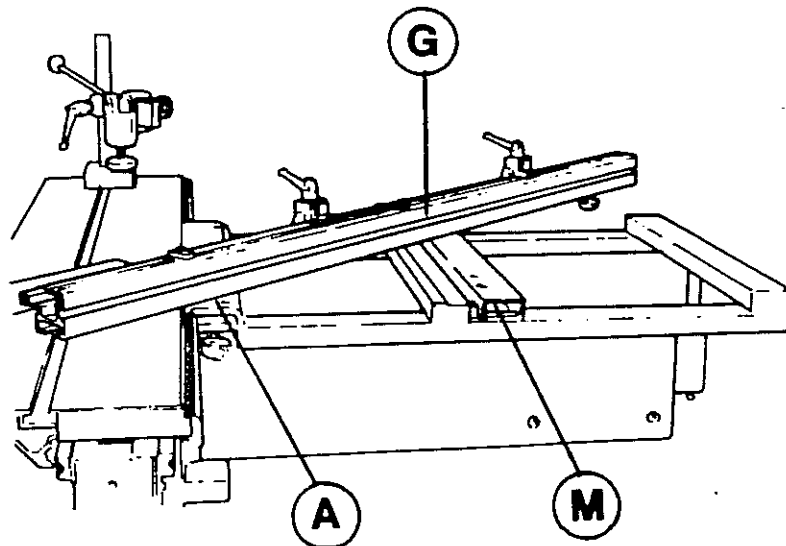

Fig.44
Fit pivot of fence (G) into hole (A) and the other pivot into the hole corresponding to 45° angle (fig.44)